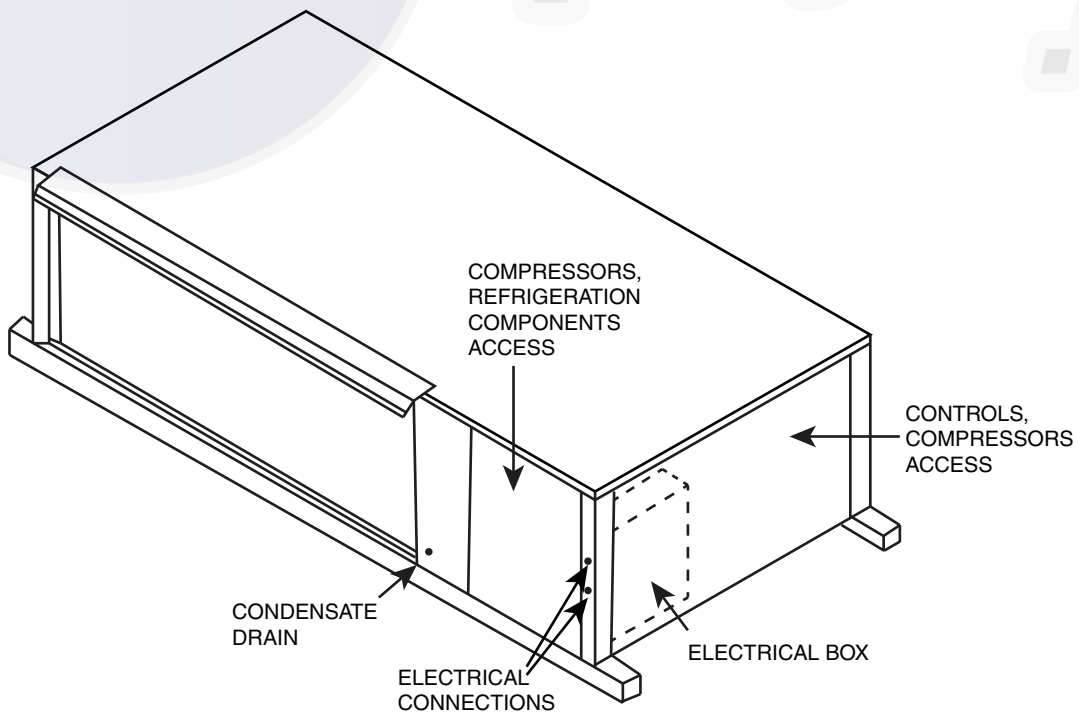
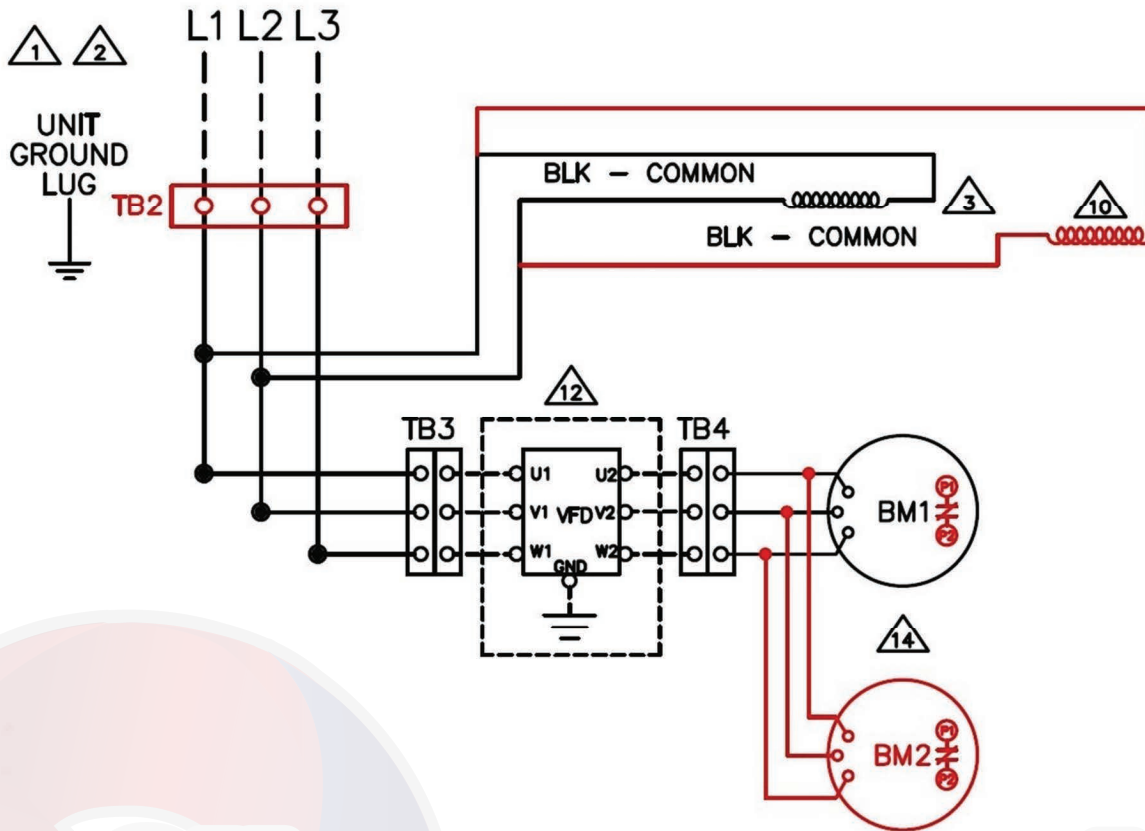

Fig. 16 — Electrical Control Box Location, 50HP Units
Fig. 17 — VFD Input and Output Power Connections, 50HQP Units
Units with the SAV™ or single speed VFD option include a VFD that ships inside the unit control enclosure for field installation. See Fig. 17 for field power wiring for VFD. Use the following guidance for VFD installation:
4. Disconnect unit power and remove the electrical control box and compressor access panel. See Fig. 16. Make field wiring connections between VFD input terminals (U1, V1, and W1) and Terminal Block 3 (TB3) located in the electrical control box. See Fig. 17.
5. Make field wiring connections between VFD output terminals (U2, V2, and W2) and Terminal Block 4 (TB4) located in the electrical control box. See Fig. 17.